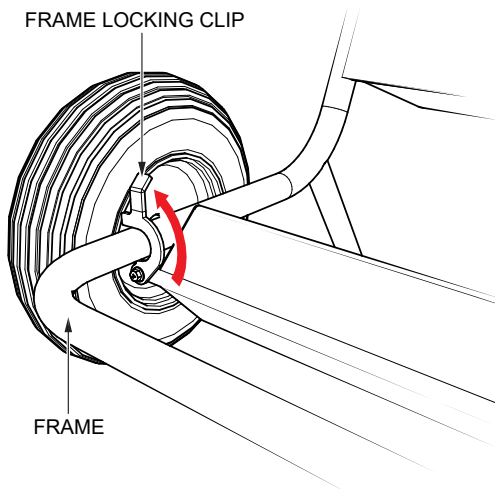

Figure 14. Frame Locking Clip
1. Before attempting to lift mixer, locate the frame locking clip. Attach the locking clip as shown in Figure 14. This will prevent the mixing drum from moving when the mixer is positioned in an upright position.